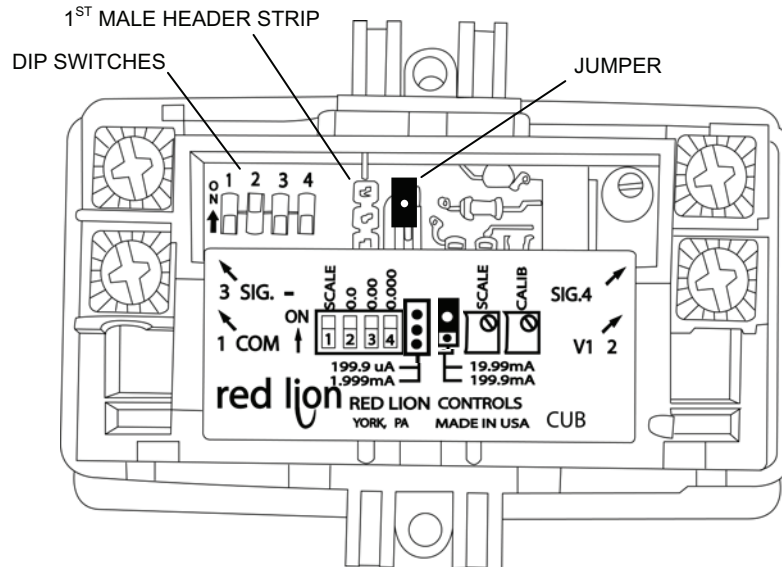

Figure 7. Digital Display Settings
- a. To set the digital display to the required 19.99mA current range, position the jumper over the top two pins on the second male header strip as indicated in Figure 7.